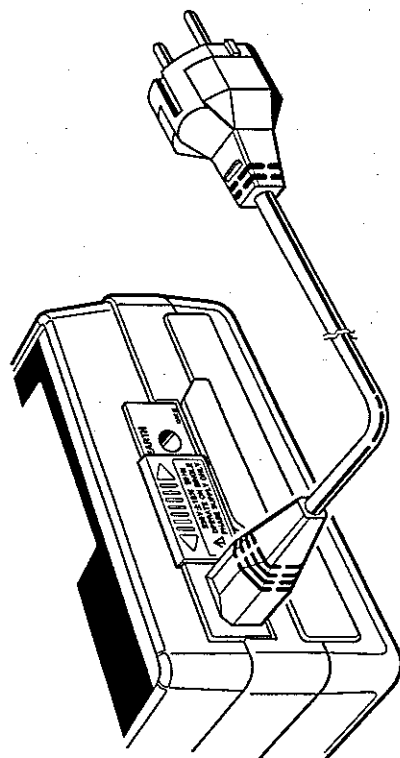
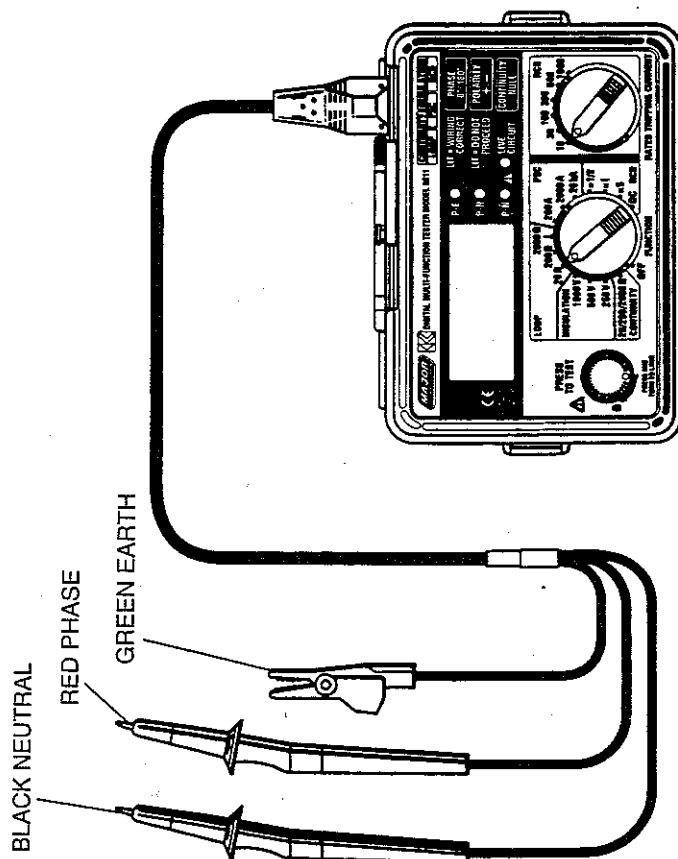

Fig 9
Fig 10
2. If testing sockets, connect the plug lead to the Model 6011 and push the moulded plug into the socket to be tested (see Fig 9).
6. If testing lighting or other circuits, connect the three-wire lead OMA DIEC to Model 6011, connect the red (phase) lead to the phase connection of the circuit under test, connect the black (neutral) lead to the neutral connection of the circuit under test, and connect the earth lead to the earth associated with the circuit. (see Fig 10).
4. Connect the instrument to the RCD to be tested either via a suitable socket outlet (see Fig 9) or using the OMA DIEC test lead set (see Fig 10).